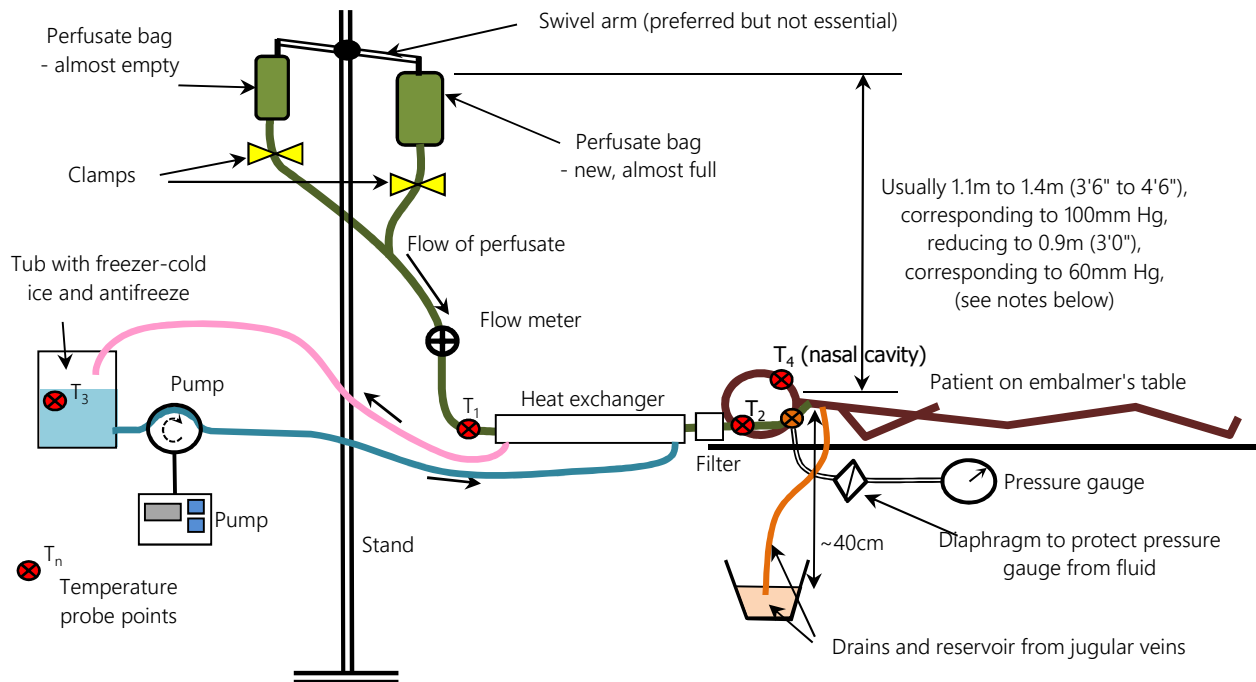

Figure 5.25 Perfusion gravity system equipment
This is usually used with Alcor's M22 perfusate, which is supplied in bags. It may, however, be used with CI's VM1 perfusate by either transferring it to bags or using containers hung from a stand. Figure 5.25 shows a schematic of the gravity system.
- Assemble the tubing including filter, flow meter, temperature probe ports (T_1, T_2), pressure gauge with diaphragm, Y-connector and carotid cannulas as shown in Figure 5.25 and Appendix A.
- Release the clamp (see Figure 5.25) and allow perfusate to just start flowing out of the carotid cannulas, then clamp the tubing as close to the cannulas as possible to stop the flow. Squeeze the perfusate bag slightly if necessary to start flow and remove all air bubbles.
- Make sure any tap or clamp on the tubing is full opened/released (Figure 5.25) to begin perfusion.
- Ideally, the two bags should be hung from pivoting arms as shown in Figure 5.25, as this causes the near-empty bag to rise, increasing its pressure and emptying it in preference to the new bag. The slight mixing also means that perfusate concentration is increased gradually, not abruptly.